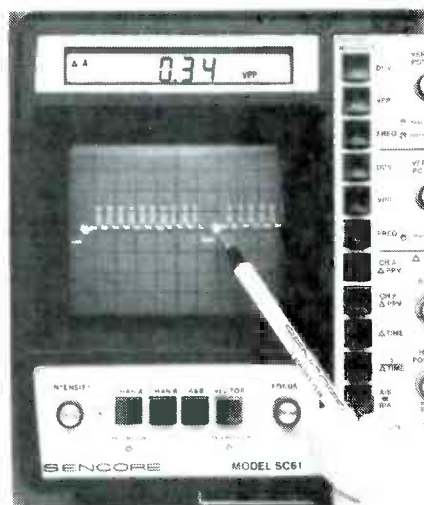

FIG. 2—PERFORMING A DELTA PEAK-TO-PEAK measurement confirms that the color burst of a composite video signal has the correct amplitude.
(5) Delta amplitude: The peak-to-peak voltage test covered earlier measured the total amplitude from the signal's lowest to its highest points. But many signals have additional signals buried within them. For example, an incorrect color-burst level on a composite video waveform (see Fig. 2) may cause color